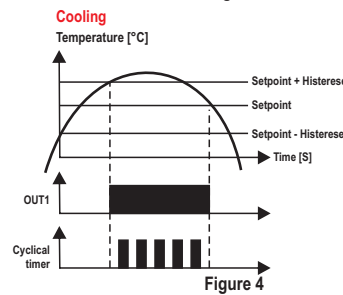

Figure 4
- **Cyclical timer output cycles whenever stage 1 output is on (F22=5):** **stage 3** will cycle only when **stage 1** output is on, observing the times configured in F20 ( $\overline{[T \theta n]}$ ) and F21 ( $\overline{[T \theta F F]}$ ), as shown in Figure 4.